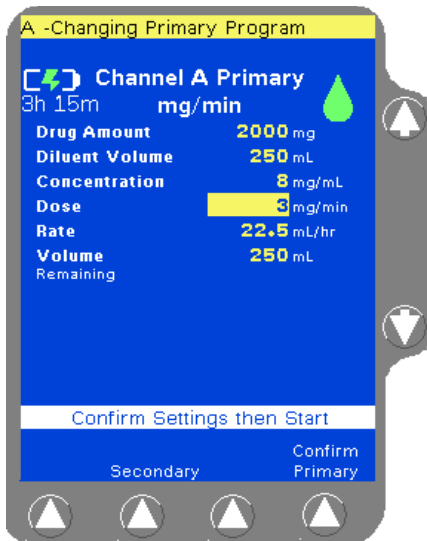

Figure 4-94 Enter New Dose
2. Enter the new dose using the numeric keypad. The pump automatically calculates the new infusion rate (Figure 4-94).